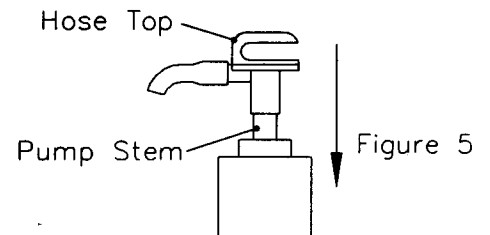

Figure 5
C. Place Hose Top on the pump stem. **FIRMLY** and **SLOWLY** push the Hose Top down until you hear two "clicks". (Figure 5)